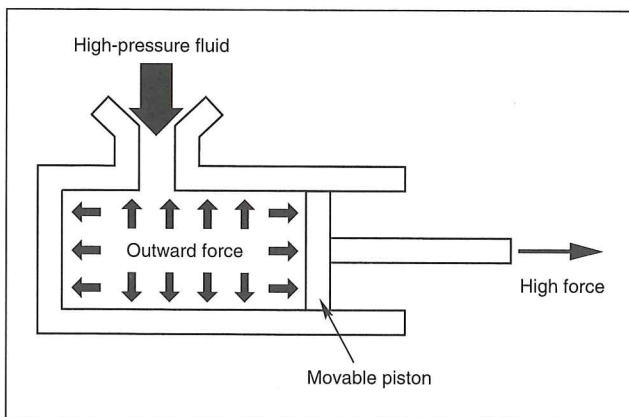

Fig. 9-1 — High-pressure fluid acting on a movable surface can be harnessed to produce force and motion.
**F**luid power, as the name implies, involves using a fluid to do useful work. Fluid power encompasses two areas: hydraulics when the working fluid is a liquid (usually oil), and pneumatics when the fluid is air. The basic principle behind fluid power is that a fluid under pressure produces an outward force on all surfaces in contact with the fluid. When fluid pressure acts on a movable surface, such as the piston in a cylinder, that force can be harnessed to do work, Fig. 9-1.